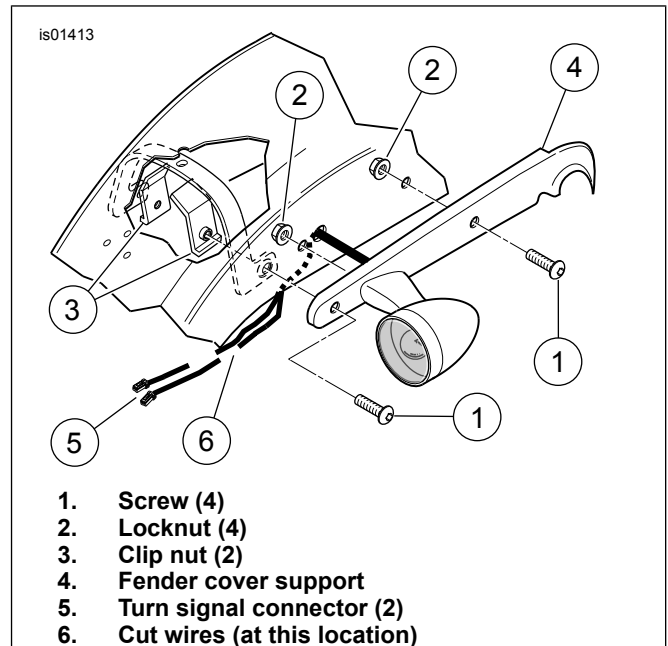

Figure 1. Rear Fender Support Removal
3. See Figure 1. It is necessary to remove the taillight lens to access the Amp Multi-lock connector. Unplug the connectors for each turn signal and push them down and through the opening in the tail light and fender.
5. See Figure 1. Remove and discard the front and rear button head screws (1), two locknuts (2) and under fender clip nuts (3) from the left and right rear fender support covers.